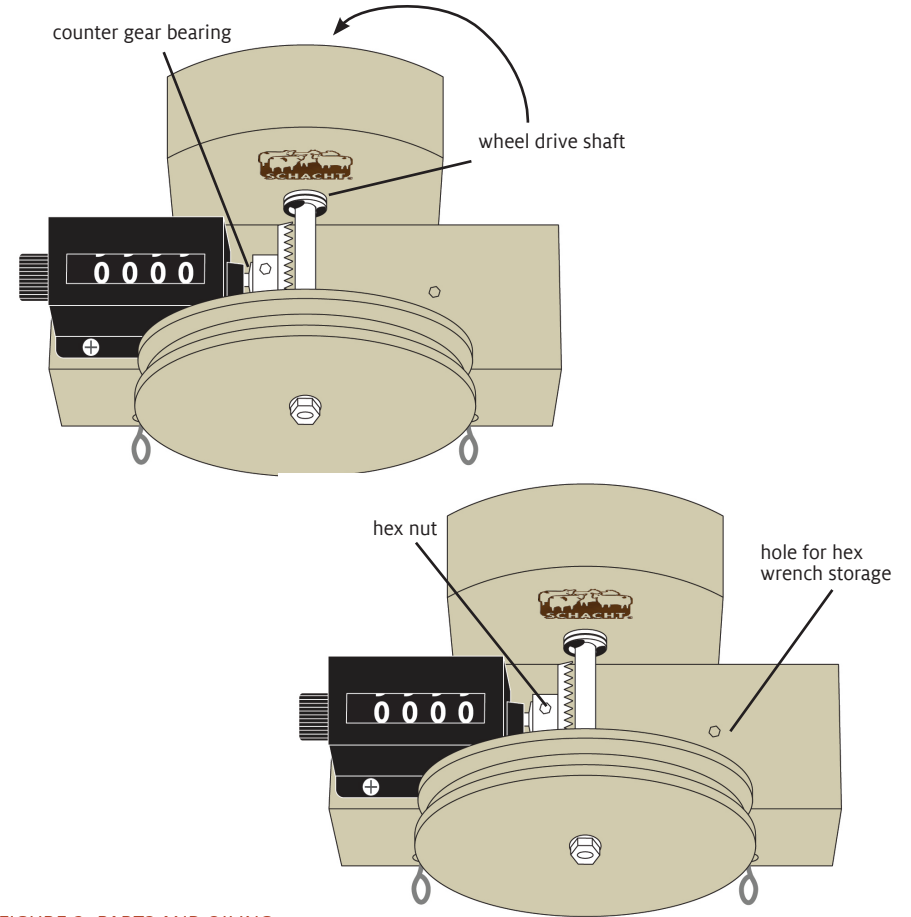

FIGURE 2: PARTS AND OILING
- Oil the yardage counter periodically with light oil, such as sewing machine or spinning wheel oil. Place a drop of oil in 3 places: on the counter gear bearing and on the wheel drive shaft where it touches the wooden upright (Figure 2).